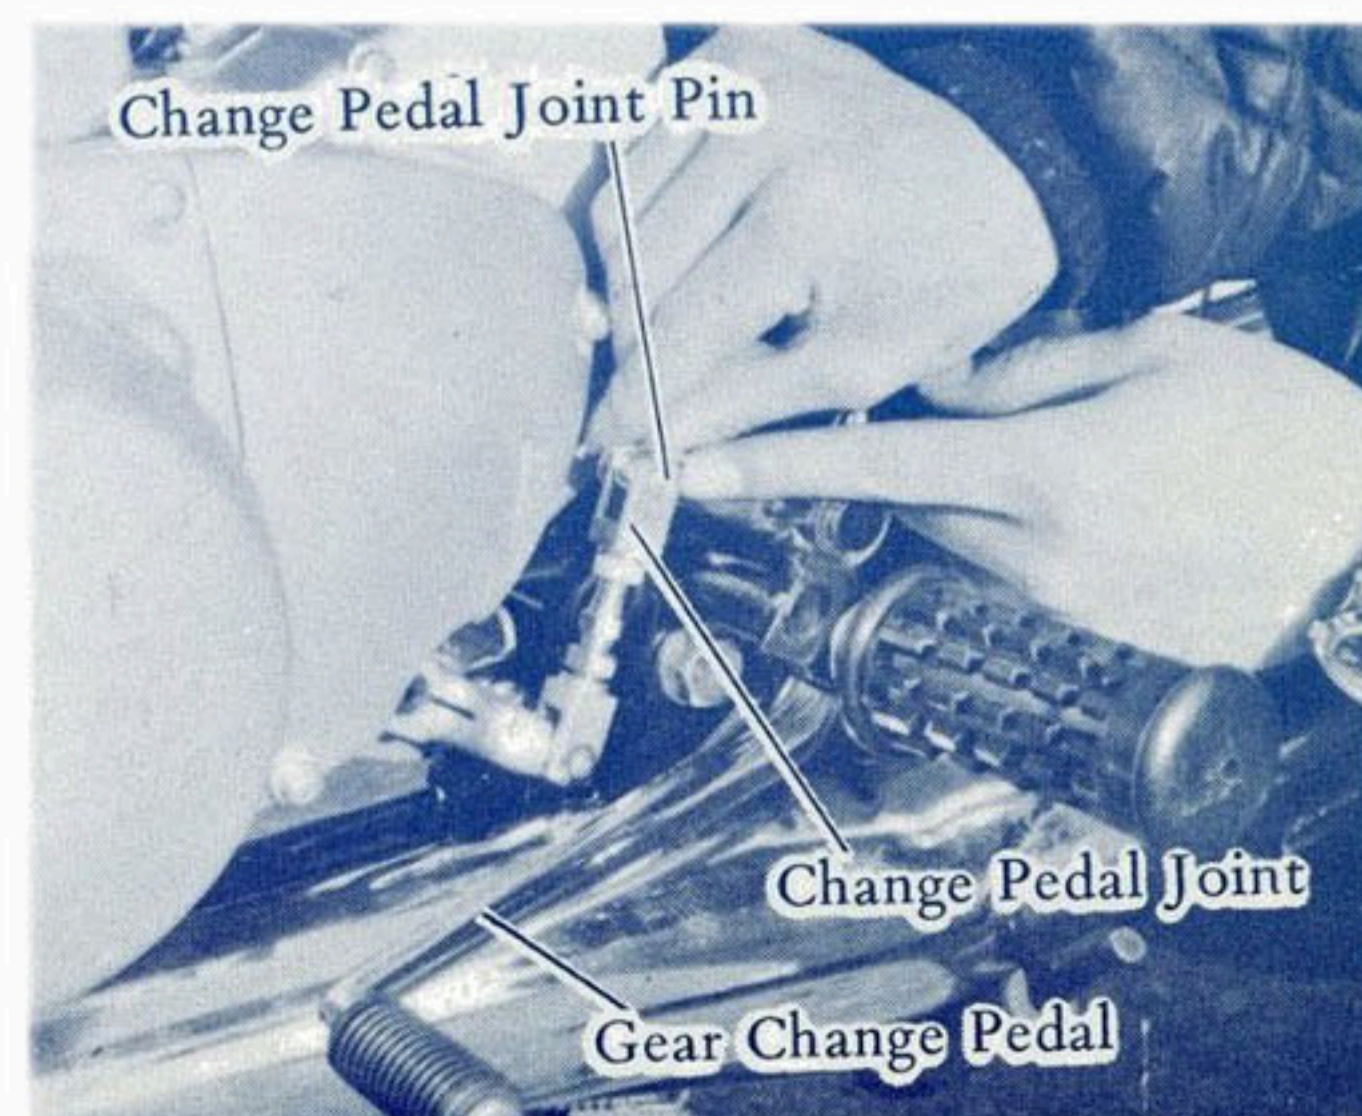

Fig. 23
2. Connect change pedal with change pedal joint with change pedal joint pin, 5m/m spring washer and 5m/m circlip as shown in fig. 23.